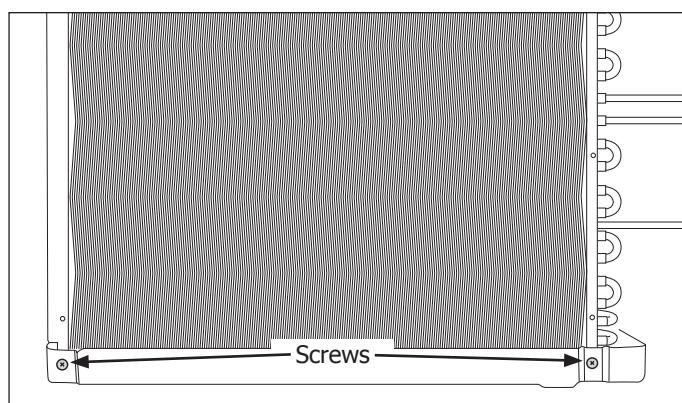

Figure 4-45.
4. Extract the two screws at the bottom corners securing the condenser to the unit base tray. Carefully lift the condenser over the base tray using care not to kink or rupture the sealed system. (See Figure 4-45)